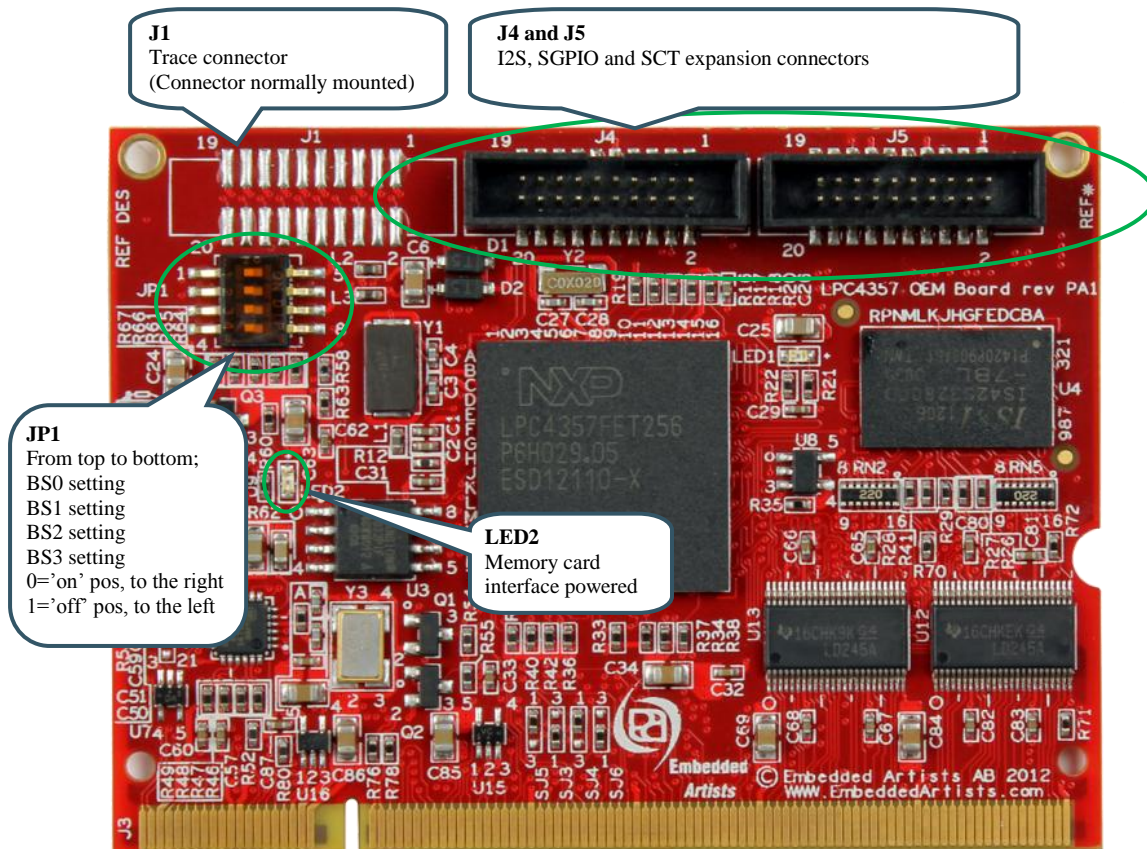
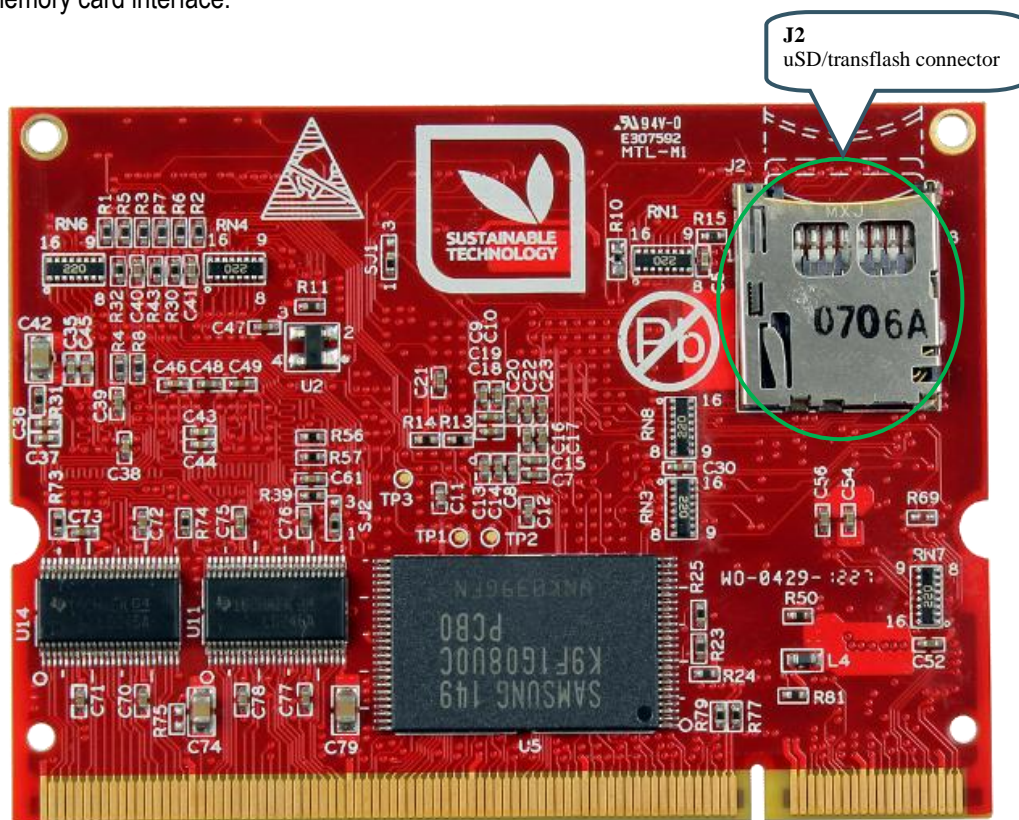

Figure 1 – LPC4357 OEM Board Picture, top side
Figure 2 – LPC4357 OEM Board Picture, bottom side
There is a connector on the top side of the LPC4357 OEM board, carrying all signals needed for debugging with trace. It is a standard 20 pos (50 mil pitch) trace connector as defined by ARM. Figure 1 illustrates where J1 is located on the board.
There are two 20-pos, 50 mil pitch connectors on the top side of the LPC4357 OEM board. See Figure 1 for location. These connectors carry selected I2S, I2C, SGPIO and SCT signals and can be used to connect these signals to a separate expansion boards. For example an audio and video expansion board. Note that some of the signals can be used on the OEM base board. Before using the signals, always check for possible contentions.
There is a uSD/transflash memory card interface connector, J2, on the bottom side of the board. See Figure 2 . LED2, on the top side, lights when the interface is powered. See Figure 1 to locate LED2.